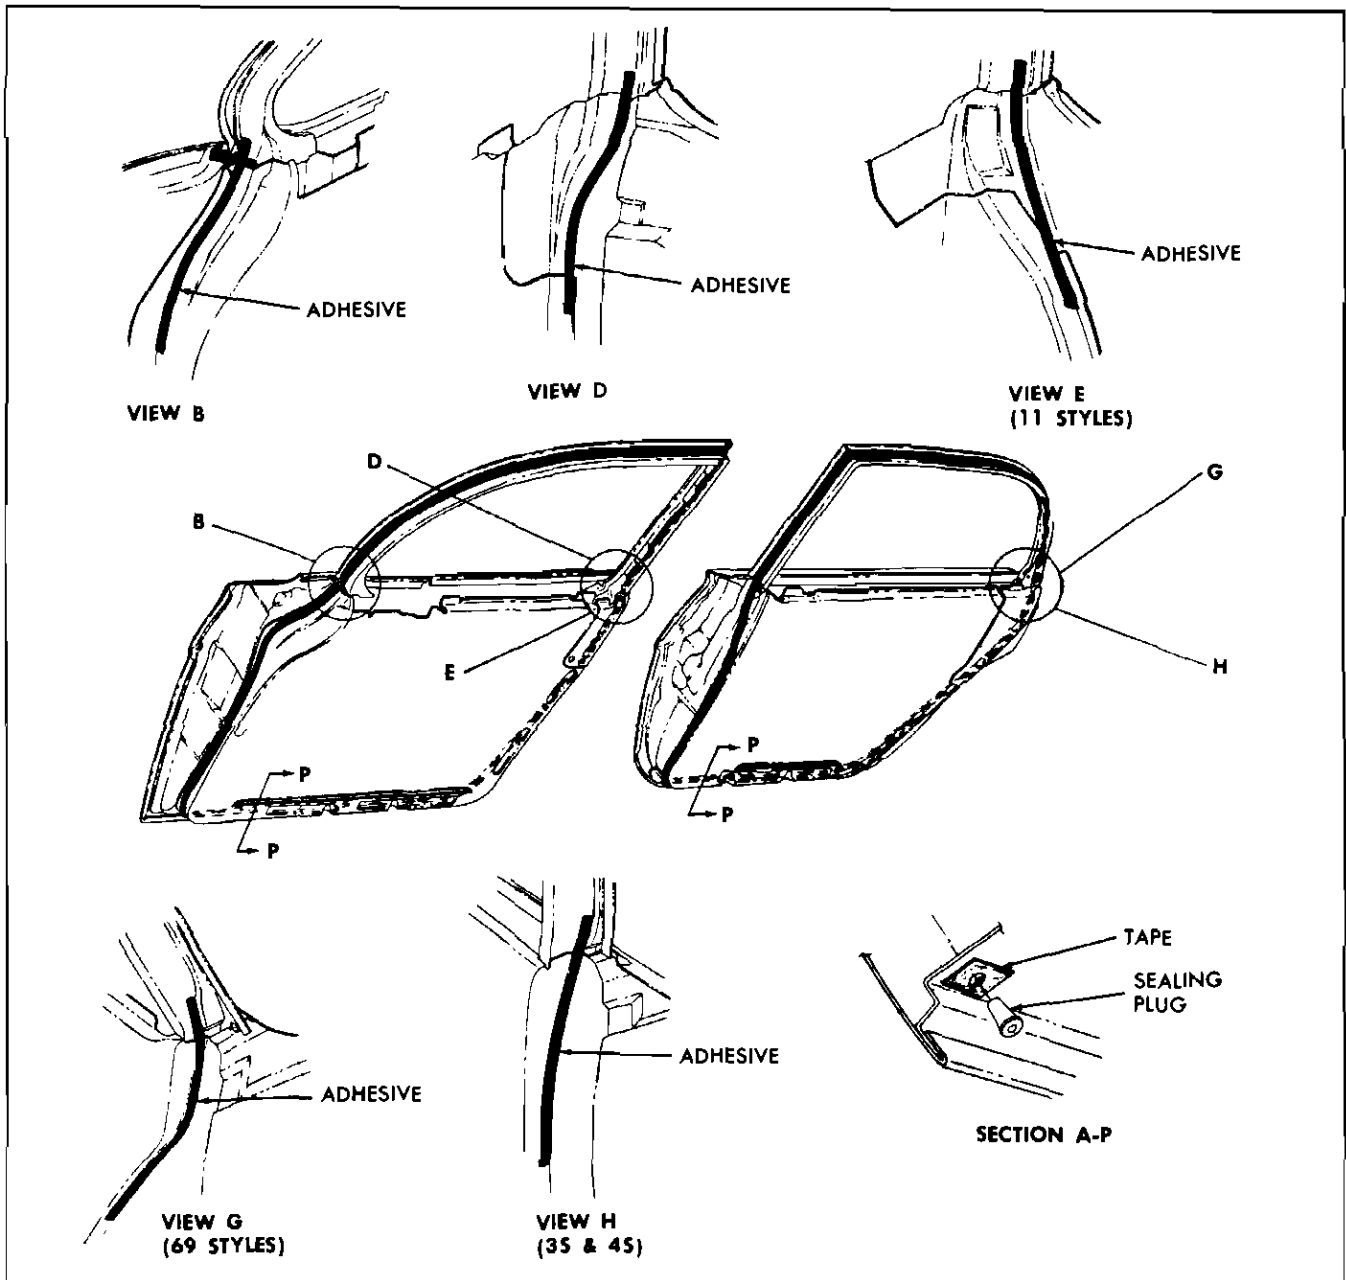

Fig. 2-5 Door Weatherstrips—11, 69, 35, 45 Styles
2. On front doors, carefully break cement bond securing weatherstrip to door lock pillar facing of door. On rear doors, carefully break cement bond securing weatherstrip to door hinge pillar and lock pillar facings of door (Fig. 2-5, Views B, D and G). Then remove weatherstrip from door.